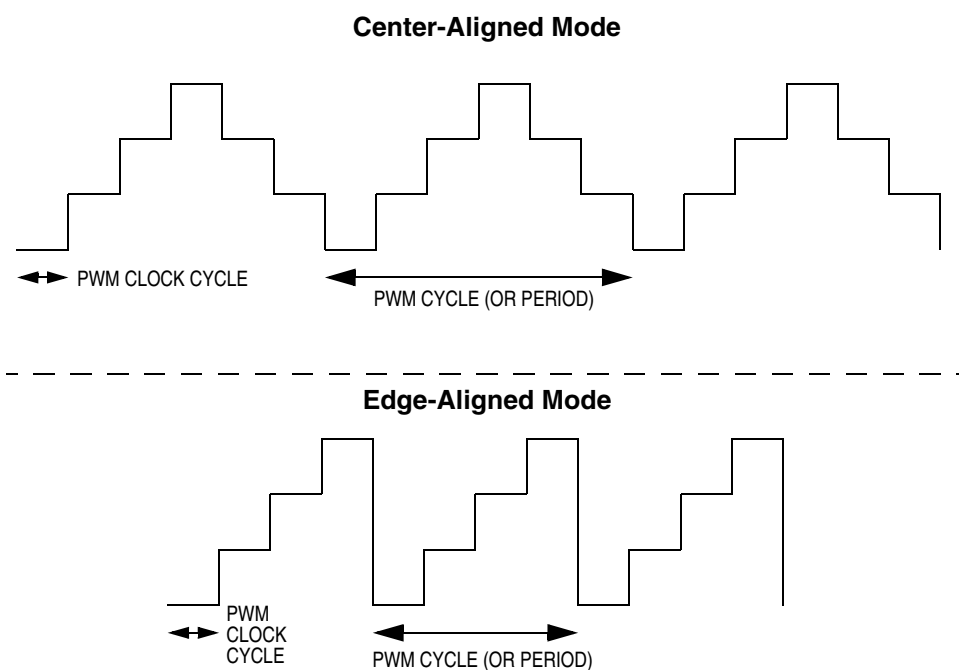

Figure 12-47. PWM Clock Cycle and PWM Cycle Definitions
PWM clock cycle (or period) — One tick of the PWM counter ($1/f_{OP}$ with no prescaler). See Figure 12-47.
- Center-aligned mode: The time it takes the PWM counter to count up and count down (modulus * $2/f_{OP}$ assuming no prescaler). See Figure 12-47.
- Edge-aligned mode: The time it takes the PWM counter to count up (modulus/ f_{OP}). See Figure 12-47.